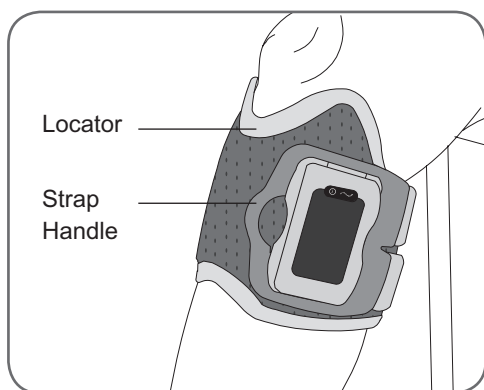

Figure 8-19: L300 FS Cuff on the right leg.
4. Make sure the L300 FS Cuff fits comfortably, with the locator below the patella and the strap handle around the cradle. The L300 RF Stim Unit should be on the medial side of the leg. See Figure 8-19.